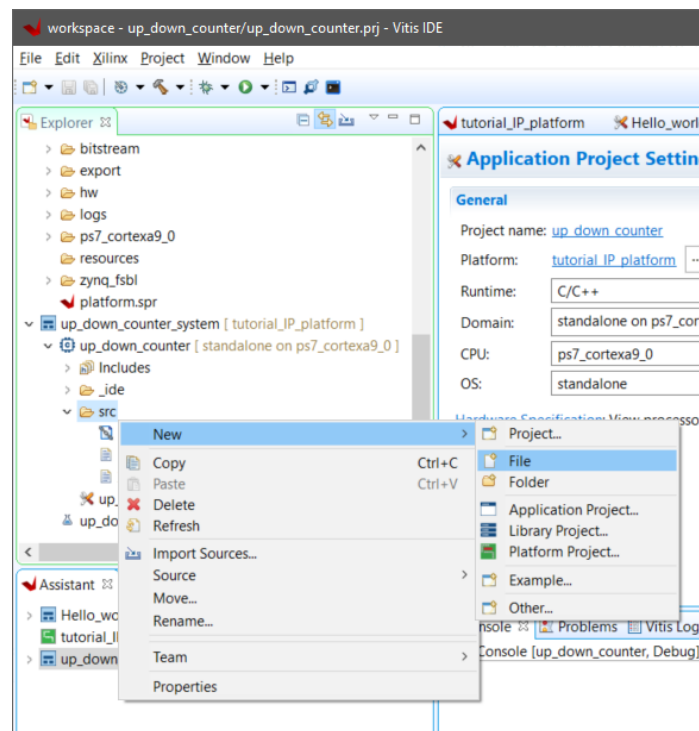

Figure 30
8. Right click on **src** → **New** and select **File** (Figure 30)